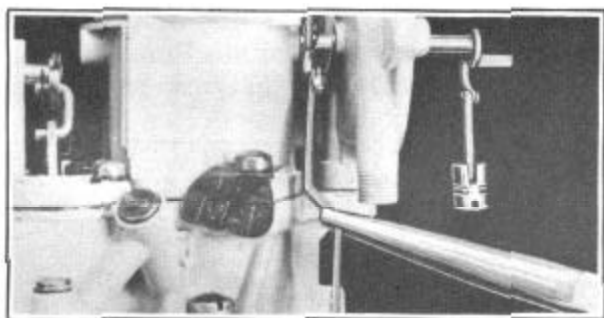

FIGURE 43
25. With choke lever, screw and link assembly in place, install choke shaft and piston assembly, Figure 43. Check for loose lever on shaft.